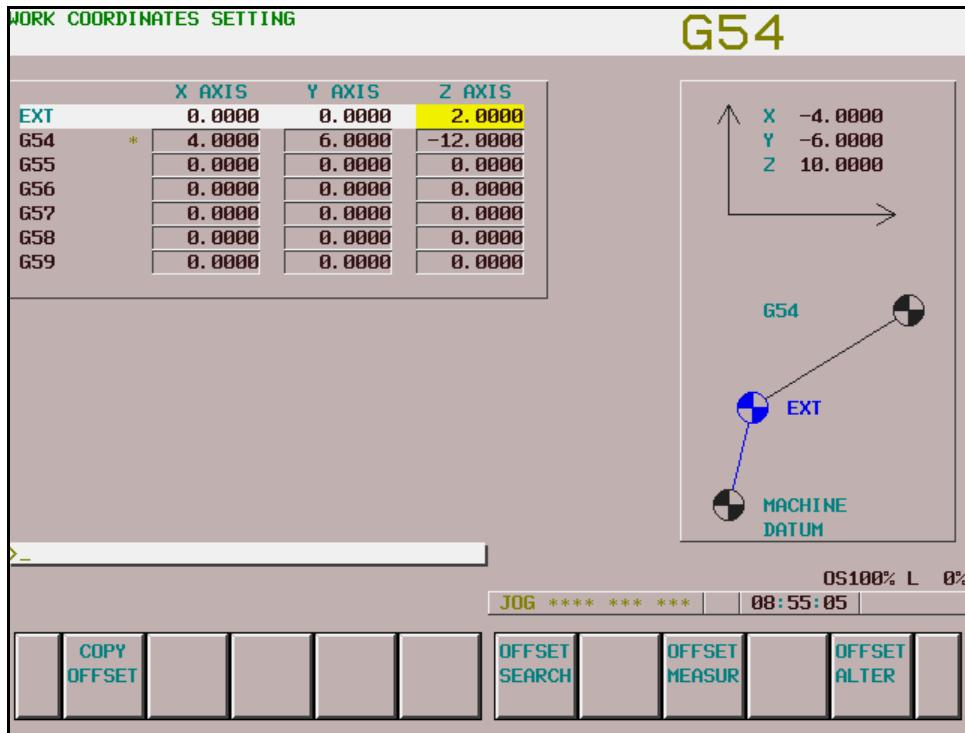

Figure 6-7: Work Coordinates Setting Screen
4. Type 5.0 inch then press the input key - the following screen is displayed (Figure 6-7:)